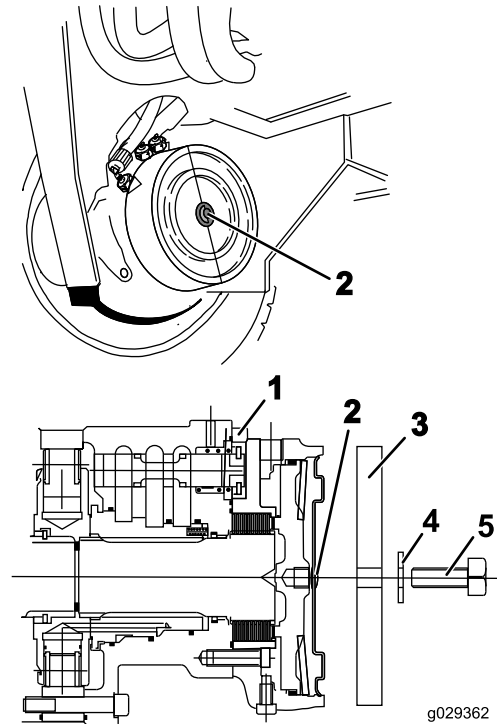

Figure 31
4. Remove the hex plug from the right, front wheel motor disc brake assembly (Figure 31).
5. Insert a set screw (M12 x 40 mm) and washer (M12) through the brake-release bar and into the hole in the center of the motor end plate (Figure 31).
3. Remove the setscrew, washer, and brake-release bar from the right and left front wheel motor disc brake assemblies (Figure 31).